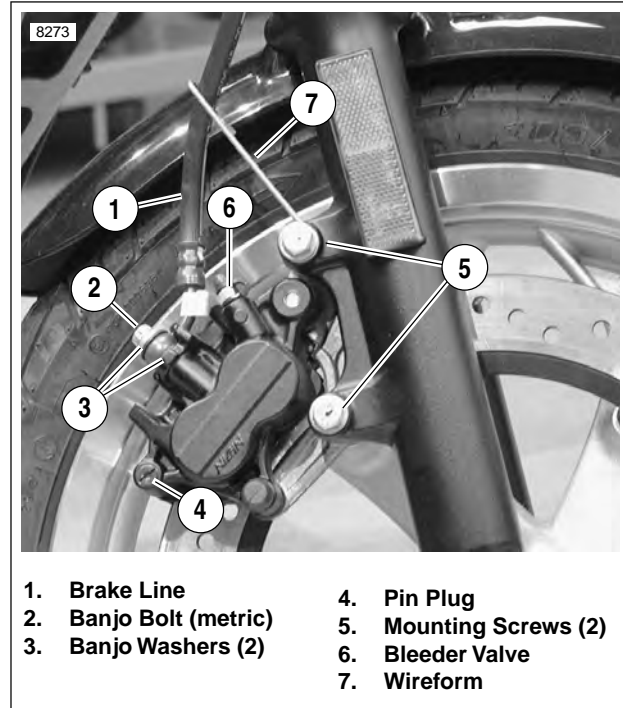
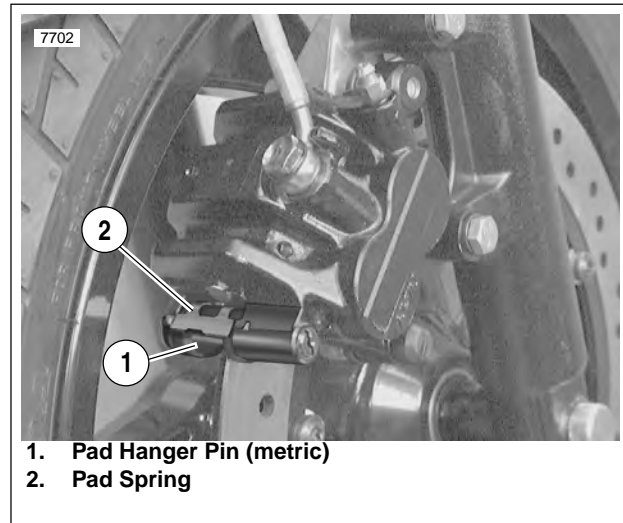

Figure 2-36. Front Brake Caliper
Figure 2-37. Pad Spring
2. See Figure 2-36. Remove banjo bolt (2) (metric) and two banjo washers (3) to disconnect brake line (1) from caliper. Discard banjo washers.
- a. Remove pin plug (4).
- b. See Figure 2-37. Remove pad hanger pin (1) (metric).
4. See Figure 2-36. Detach caliper from mounts.
- a. Remove lower mounting screw (5).
- b. Remove upper mounting screw (5) and brake line wireform (7) while supporting caliper above brake rotor.
2. See Figure 2-36. Apply LOCTITE THREADLOCKER 272 (red) to both caliper mounting screws (5). Install wireform
- a. See Figure 2-37. Install pad spring (2) with opening at top as shown.
- d. See Figure 2-37. Install pad hanger pin (1) (metric). Tighten to 11-14.5 ft-lbs (14.7-19.6 Nm).
- e. See Figure 2-36. Install pin plug (4). Tighten to 1.5-2.1 ft-lbs (2.0-2.9 Nm).